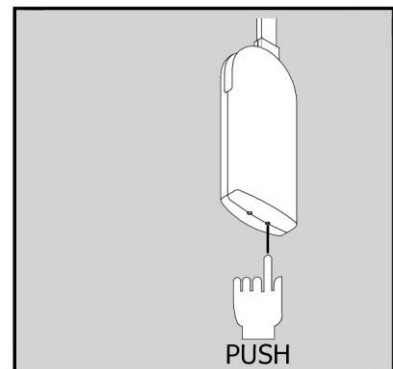

Fig. 22
- 1 - Press and hold the programming button (Fig. 22) for 5 seconds; when released, the control unit will "BEEP" twice.
If you want to delete all the remote controls, press and hold the programming button (Fig. 22) for 10 seconds; when this button is released, there will be three consecutive “BEEPS”, indicating that all the synchronised remote controls have been deleted. The desired remote control(s) can then be retuned.